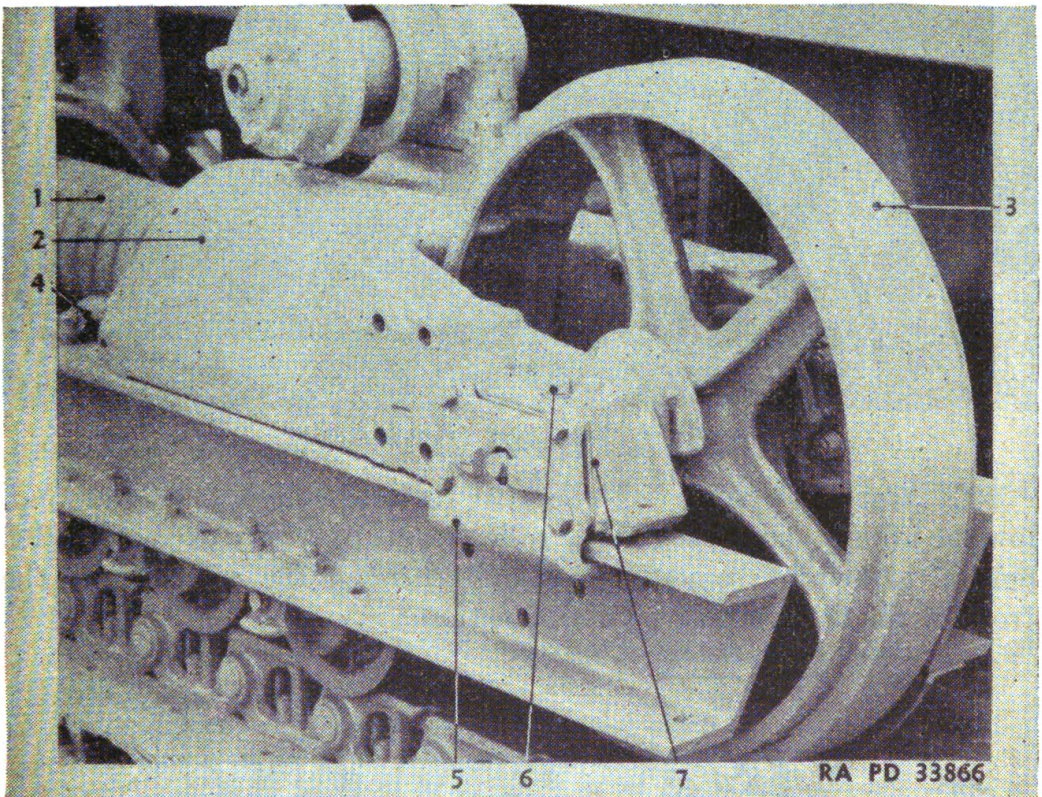
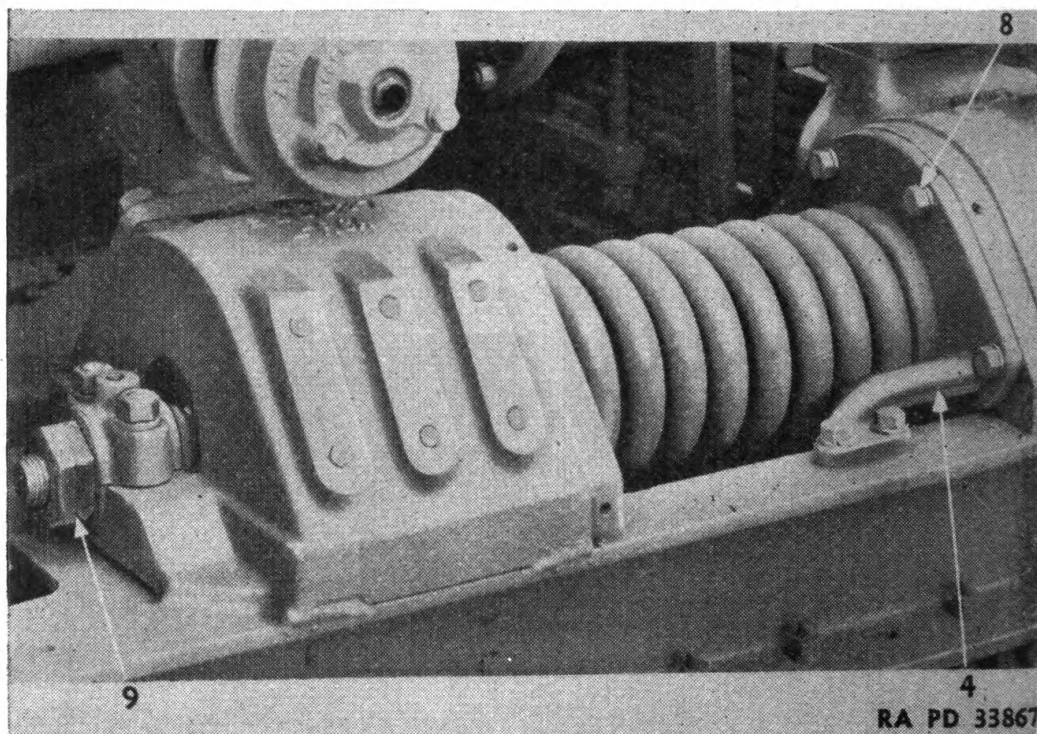
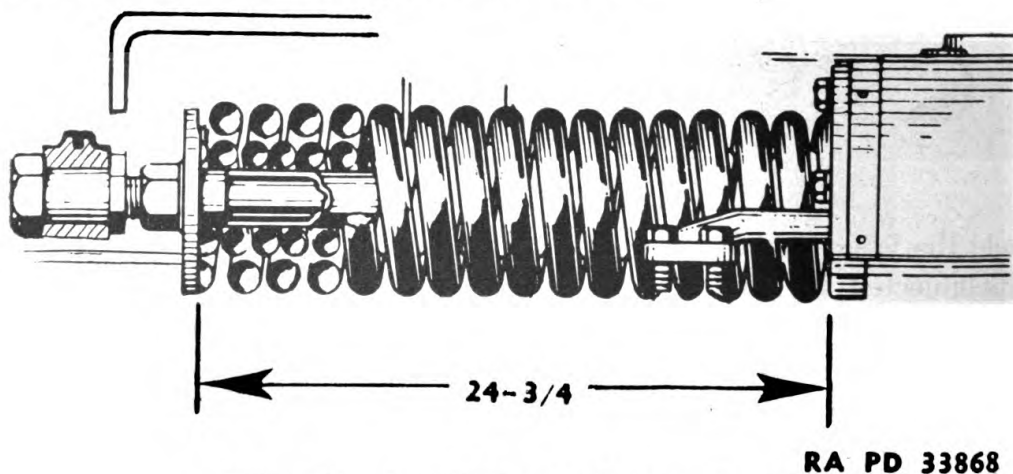

FIGURE 149.—Front idler assembly.
FIGURE 150.—Front idler and yoke removal.
FIGURE 151.—Assembled length of idler recoil spring.
134. General.—The front idler is used to maintain proper tension in the track and to guide the track. Turning adjusting nut (9) (fig. 150) moves recoil spring (1) (fig. 149), idler yoke (2), and idler (3) forward or backward on the roller frame. The idler and yoke move back against the compression of spring (1) when an obstruction is encountered at the front of the track assembly. Guides (4) and (5)
hold the idler yoke in alinement on the roller frame. With the track disconnected and laid out flat, the front idler and yoke can be removed as a unit by taking off guides (4) and (5) and removing capscrews (8) (fig. 150).
135. Bushings, shafts, and thrust washers.—The bushings and shafts can be removed as recommended for track rollers after setscrew (6) (fig. 149) is removed from each end of the idler shaft.
136. Idler yoke.—*a.* The idler yoke should have from $\frac{1}{8}$ - to $\frac{3}{16}$ -inch side movement on the roller frame. Amounts in excess should be reduced by removing shims (7) (fig. 149).
b. The assembled length of the spring (fig. 151) from the end of the front coil to the end of the rear coil should be $24\frac{3}{4}$ inches. This is governed by the nut on the recoil spring bolt ahead of nut (9) (fig. 150).
c. Track adjusting nut (9) does not change the tension of the recoil spring but rather slides the complete spring, yoke and idler.